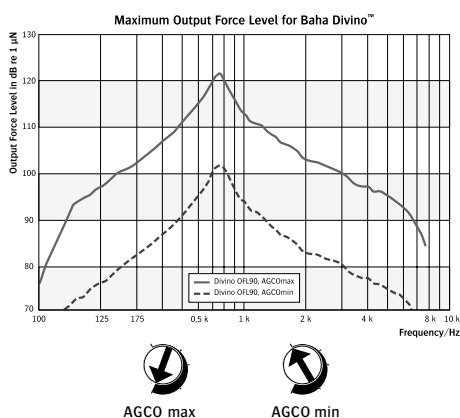

Fig. 15 See page 35 for larger scale.
The Divino can be adjusted to the appropriate frequency response by using the tone control (10) located on the back of the sound processor. Turn the control counter clockwise to decrease the low frequency sound (see Fig. 15).